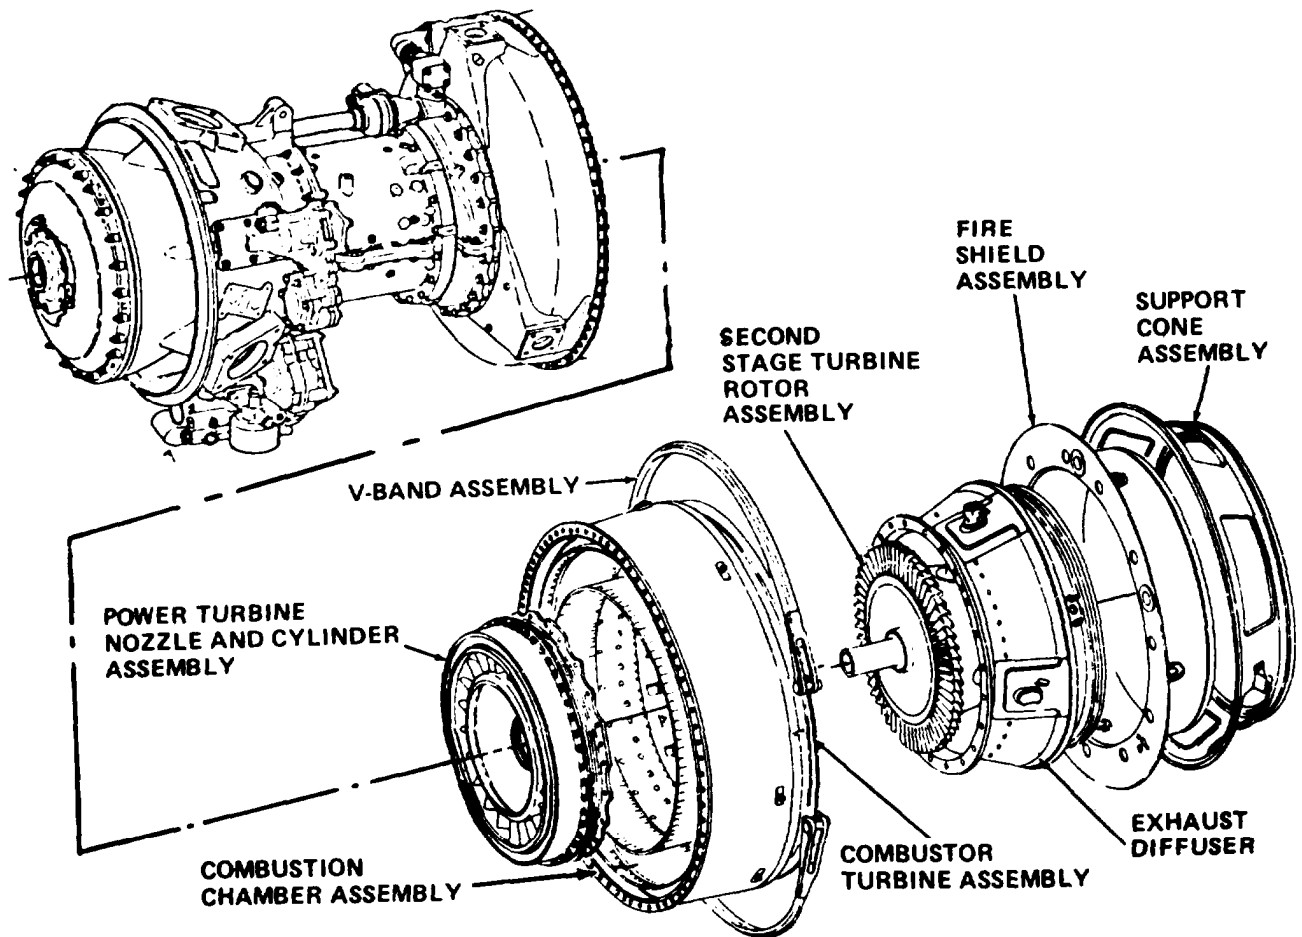

Figure 1-5. Combustion Section (T53-L-11 Series Engines)
**1-9. Combustion Section (T53-L-11 Series Engine) (See figure 1-5).**